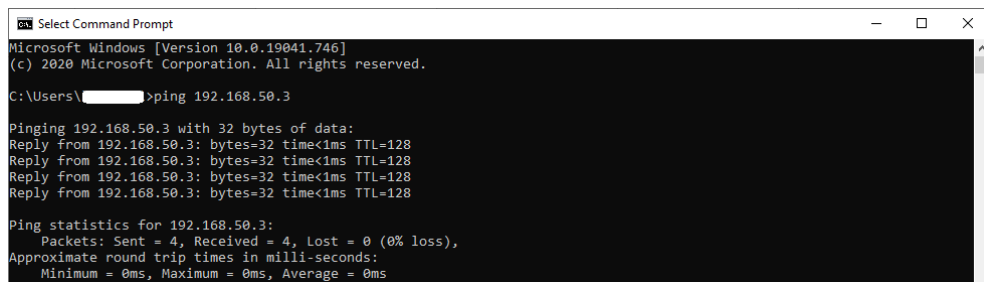

Fig. 10.6: Command prompt window with the command for testing the communication.
3. The user can test if the communication between the PC and the A5202 is established by opening the "Command Prompt" and typing the same command as in Fig. 10.6. If the communication is correctly established, the output message should be similar to that in Fig. 10.6.